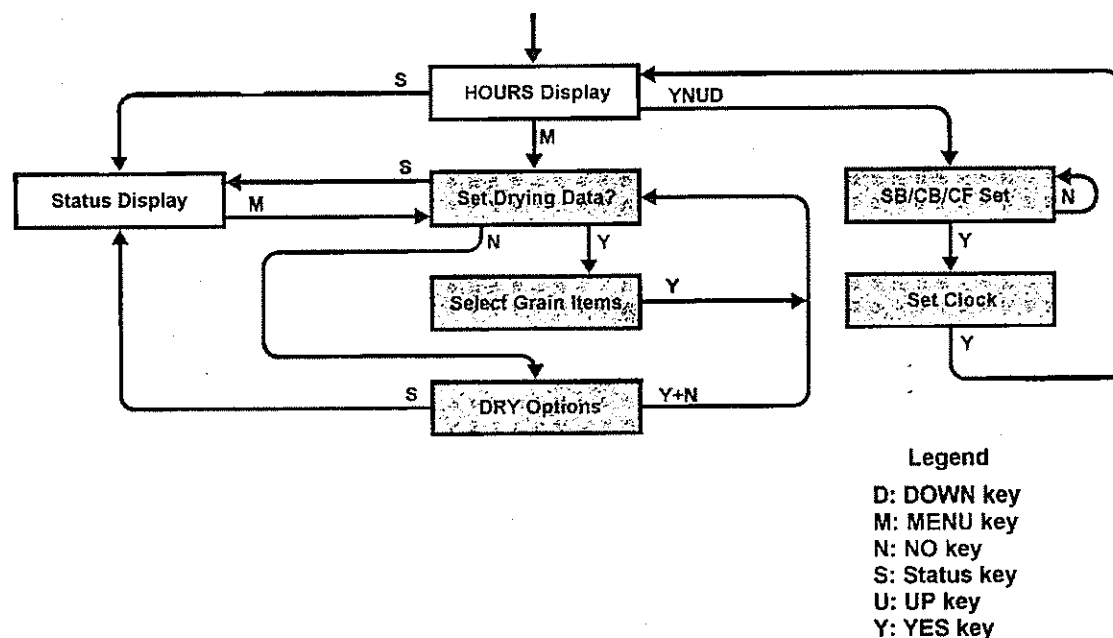

Figure 4-B Path from hours display to status display
4.2.2.2.2 Controller Status display - Press the STATUS key. The path to reach the STATUS display message is shown in Figure 4-B.